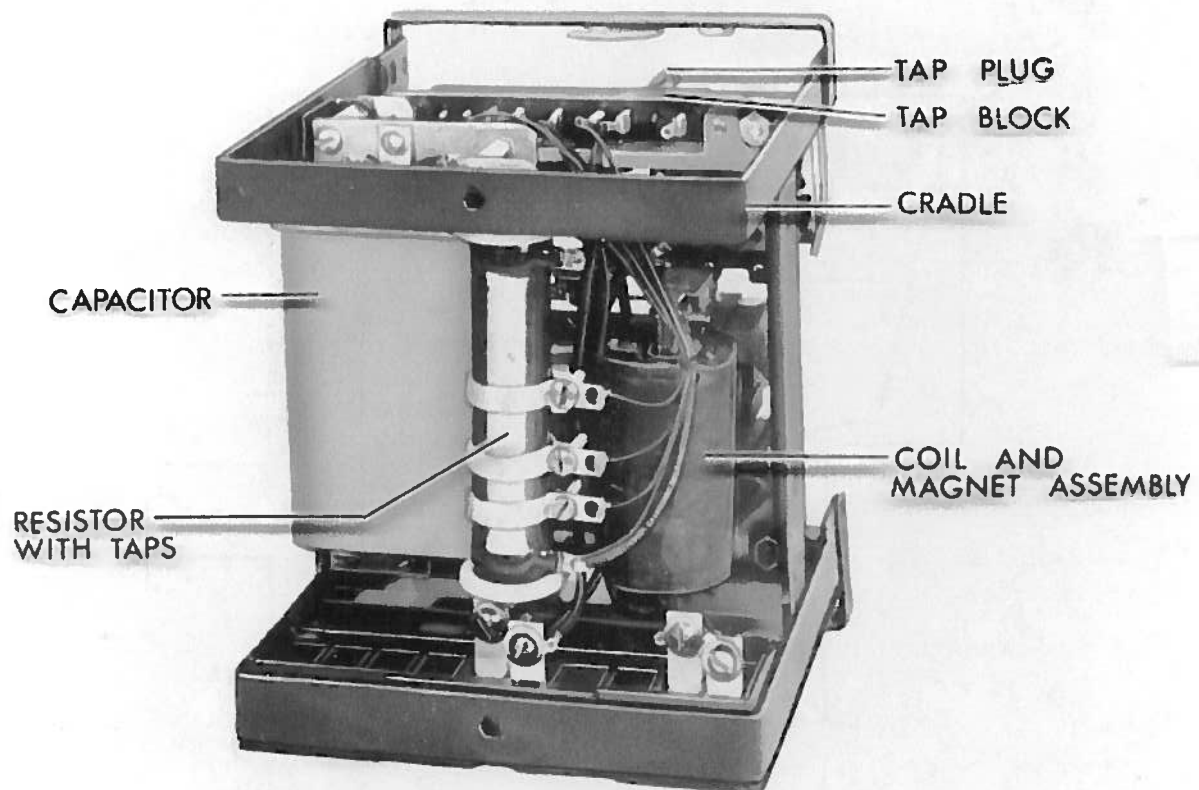

FIG. 2 (8043182-0) TYPE IAV51D RELAY, REMOVED FROM CASE, REAR VIEW
- FIG. 2 (8043182) TYPE IAV51D RELAY, REMOVED FROM CASE, REAR VIEW